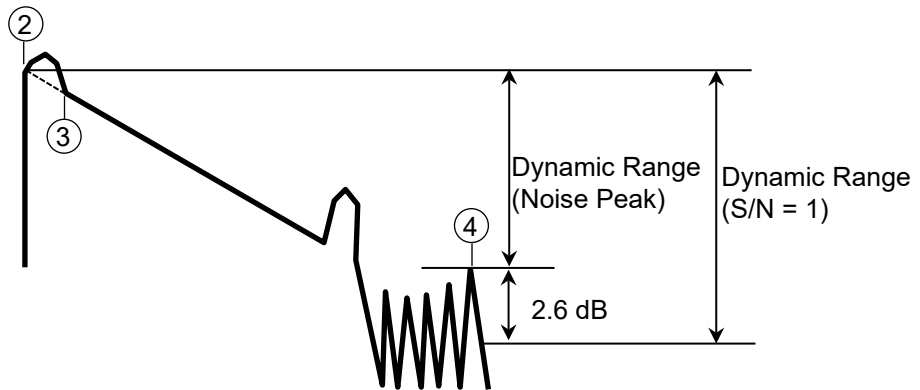

Figure 15.3.3-2 How to Measure Dynamic Range
20. Place the markers on the positions shown in Figure 15.3.3-2.
- ② Extreme left of the trace graph
- ③ Optical connector of the ACCESS Master
- ④ Noise peak